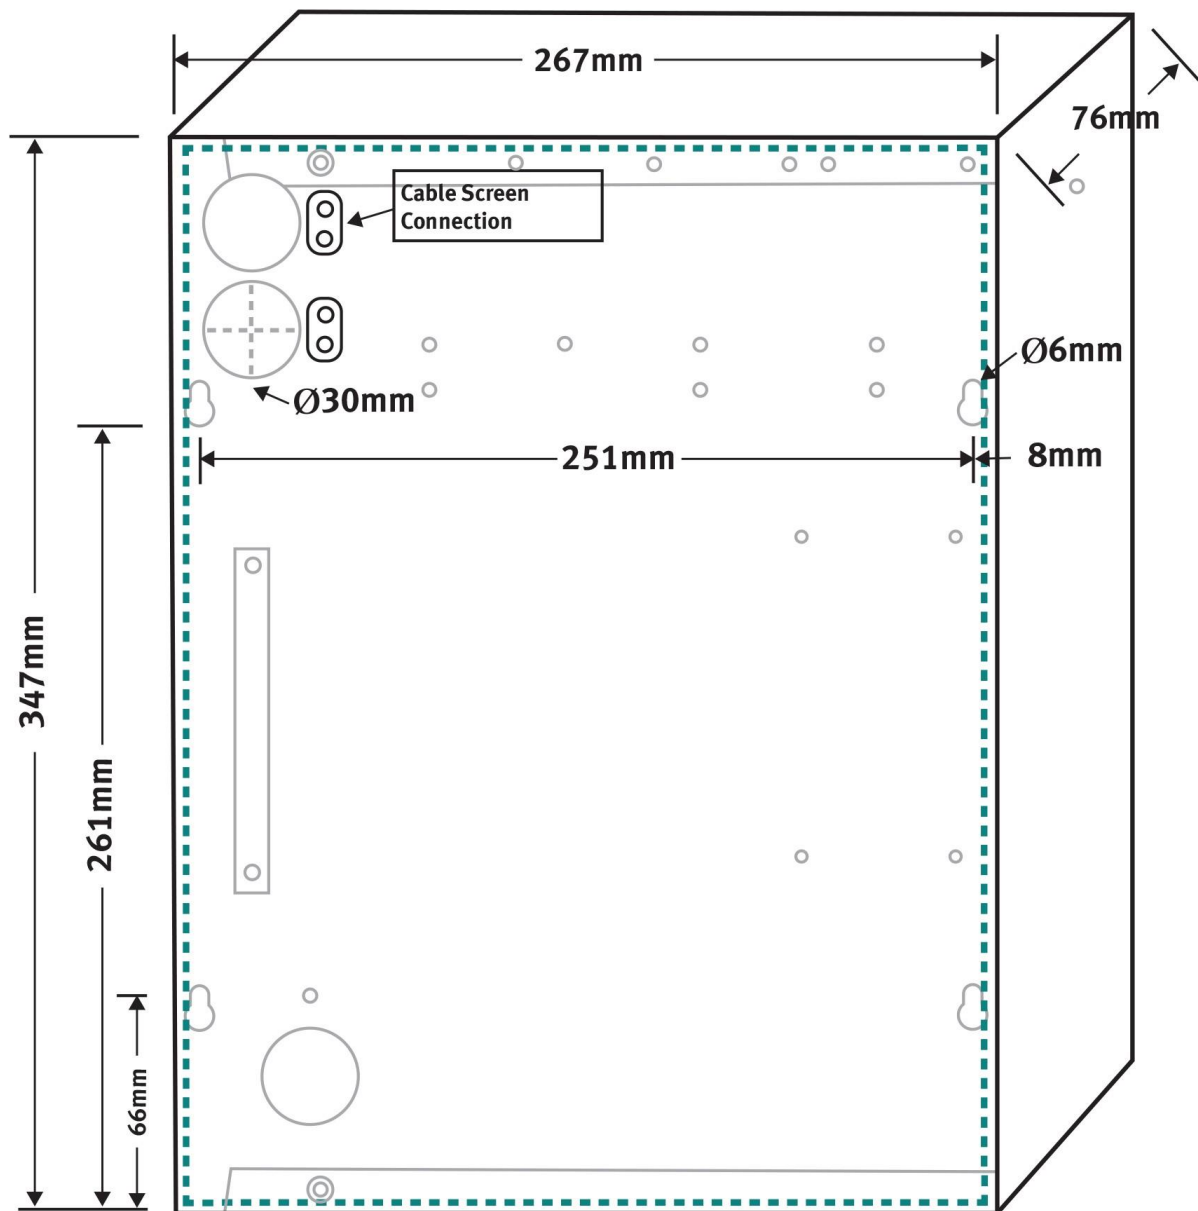

Figure 3 - Fixing Hole Template
- ▶ Figure 3 on page 8 for the location of the holes. Once drilled, insert appropriate fixing plugs.